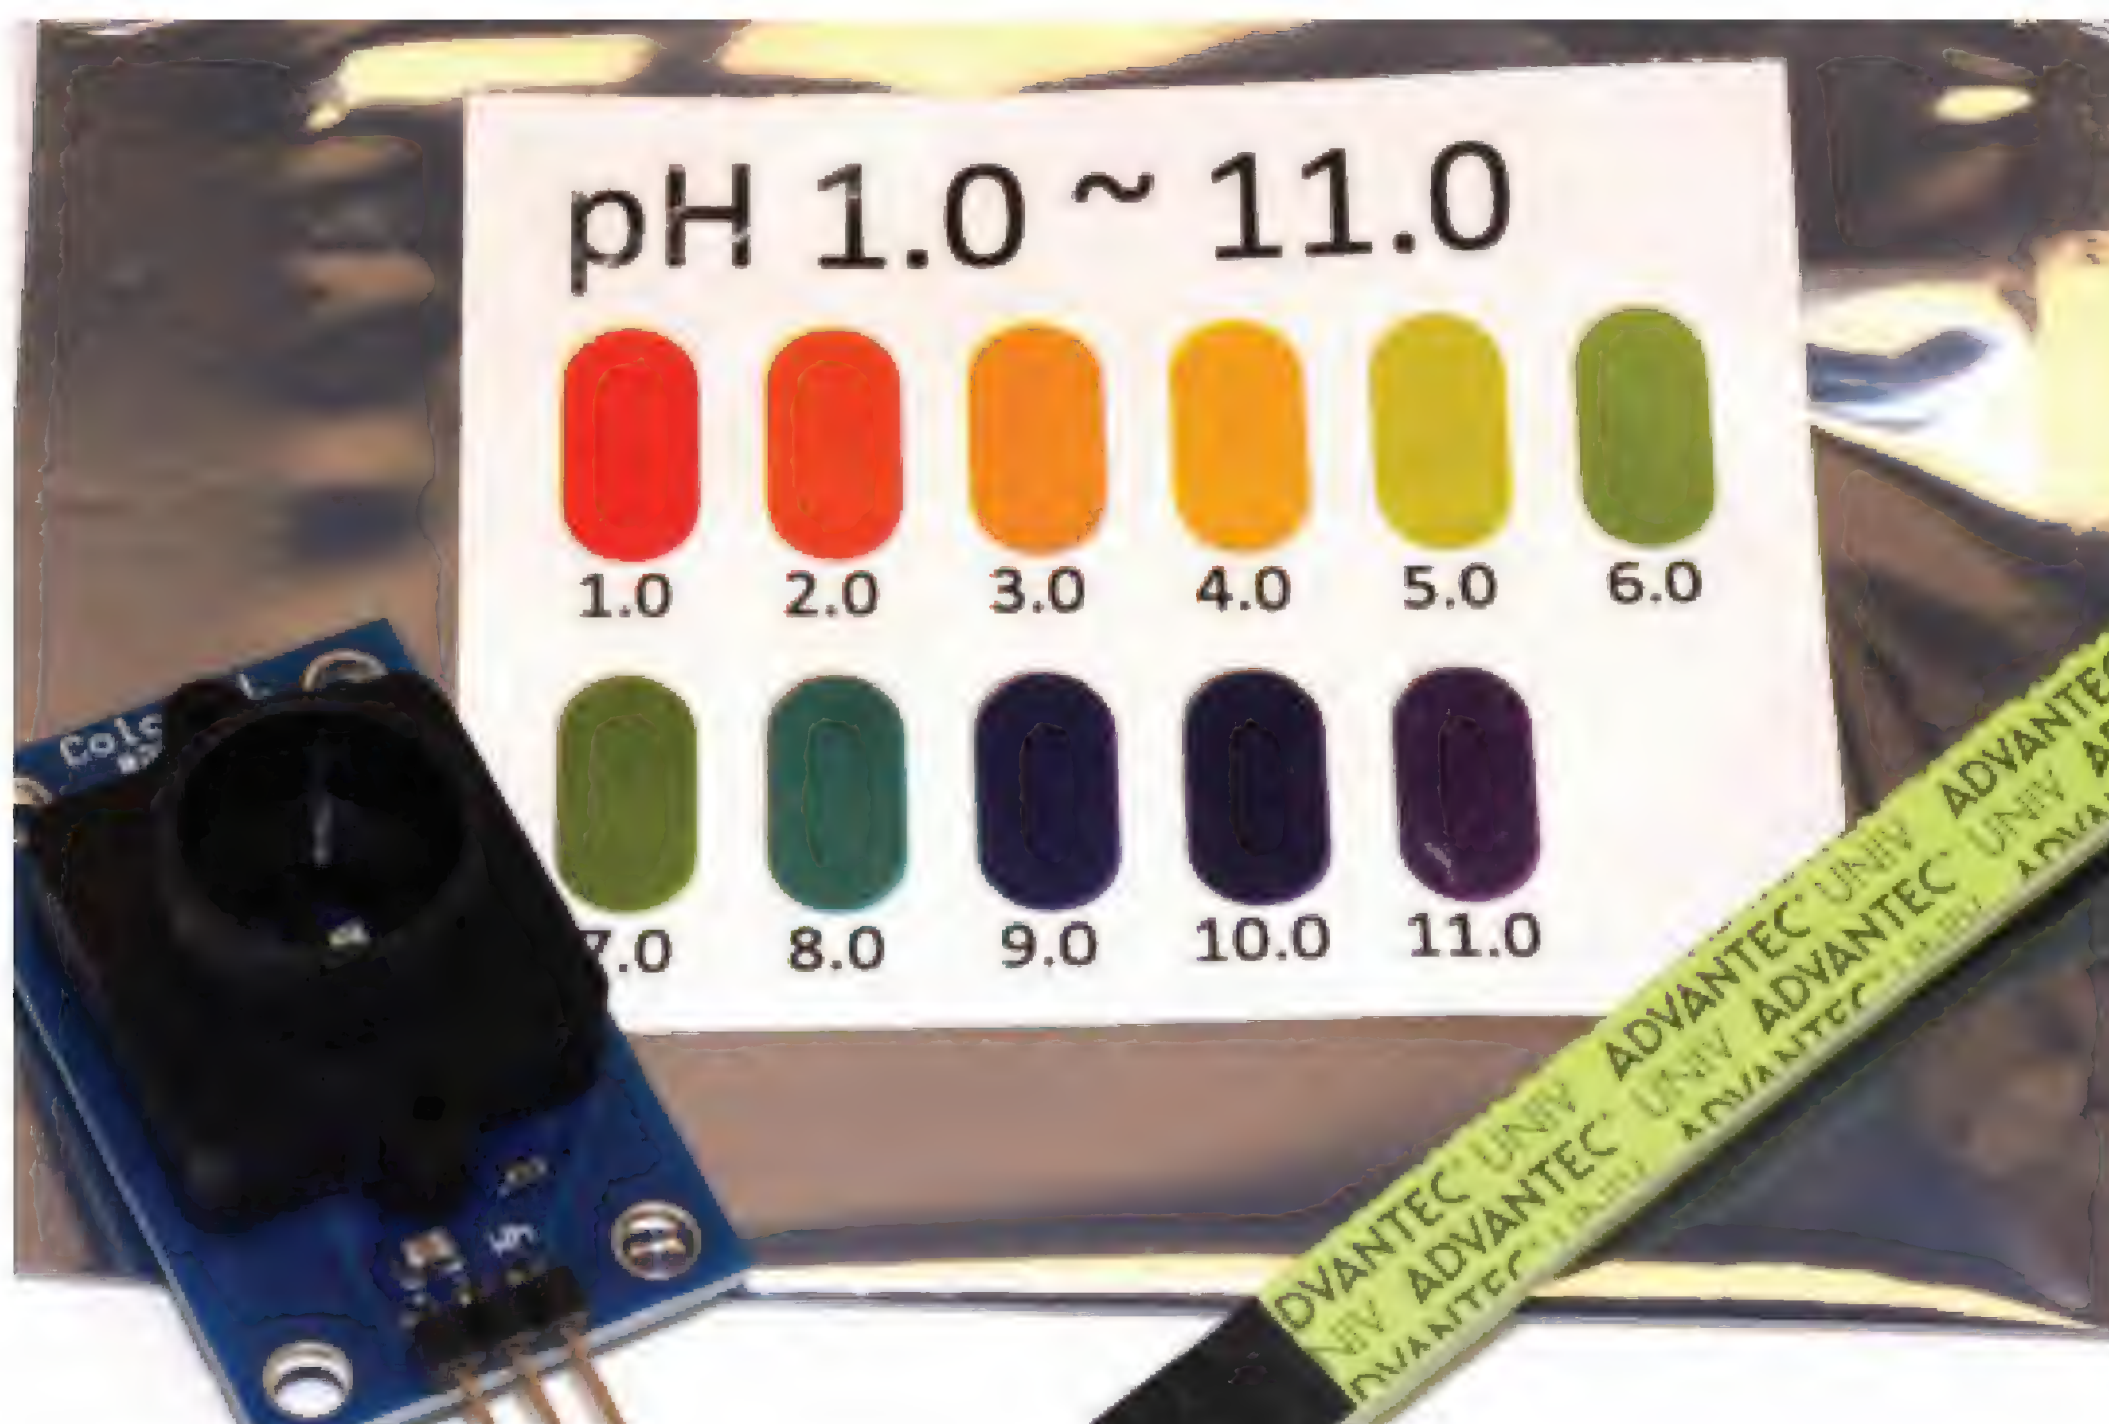

Figure 4. ColorPAL sensor, pH color guide, and booklet of pH paper strips.
Figure 5. A grounding lug is specified in the **Parts List**. Wiring to the switches is not critical. Just hook them up neatly and you will be fine. (Refer back to **Figure 4**.) The LEDs are held in place with glue.
Continuing with the idea of an objective quantitative pH paper reader, let's use the ColorPAL color sensor to quantify the color of a test strip, using the color guide from the bag containing the pH strips as a standard (see **Figure 4**). I don't know about you, but I have
■ FIGURE 4. Stripboard layout for N514RA experiments.
The stripboard layout is presented in **Figure 4**; a larger version is available for downloading at the article link. The stripboard's wiring is fairly simple, so I haven't included a schematic; just refer to the layout in **Figure 4** for the following discussion.